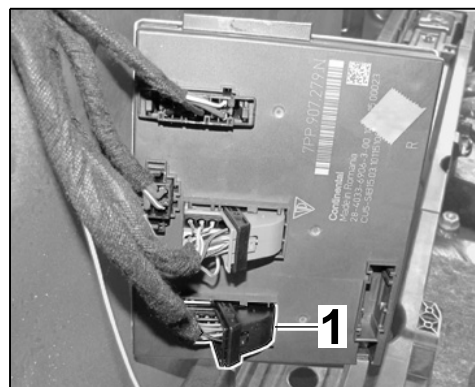

Figure 31
- 3.3.5 Connect electric plug connection $\Rightarrow$ Figure 31 -1- from rear-end electronics control unit. $\Rightarrow$ Workshop Manual '578919 Removing and installing control unit for rear-end electronics'